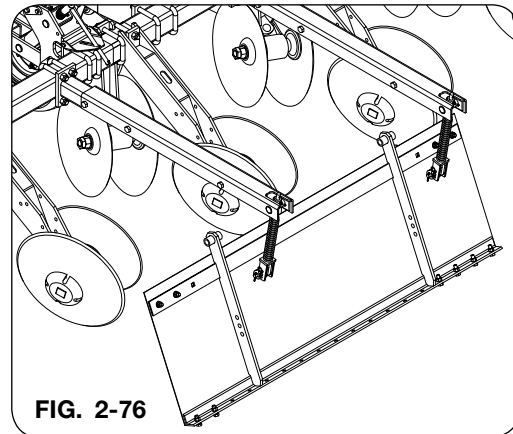

FIG. 2-76
2. Attach the top of the panel weldment to the leveler mounting arm using the tube/bushings (65770), capscrews 5/8"-11UNC x 4 1/2" (9390-133) and locknuts 5/8"-11UNC (9801) as shown in Fig. 2-76 & 2-77.
3. Attach the spring rod of the leveler mounting arm to the middle of the panel weldment using the clevis pins (900340) and cotter pins (9391-025) as shown in Fig. 2-76 & 2-77.